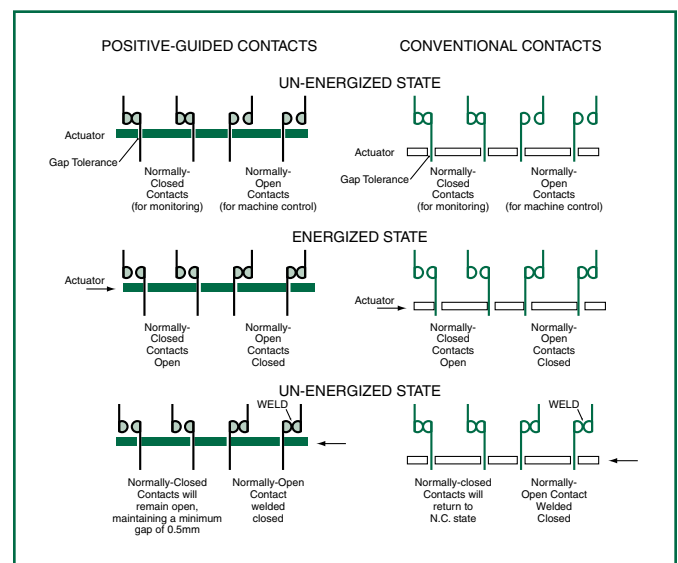

Figure 3
Positive-Guided Contacts: Normally-open (NO) and normally-closed (NC) contacts which operate interdependently such that the NO and NC contacts can never be closed at the same time. They are designed such that if one of the contacts welds/sticks closed, the other contacts cannot change state. (See Figure 3.)